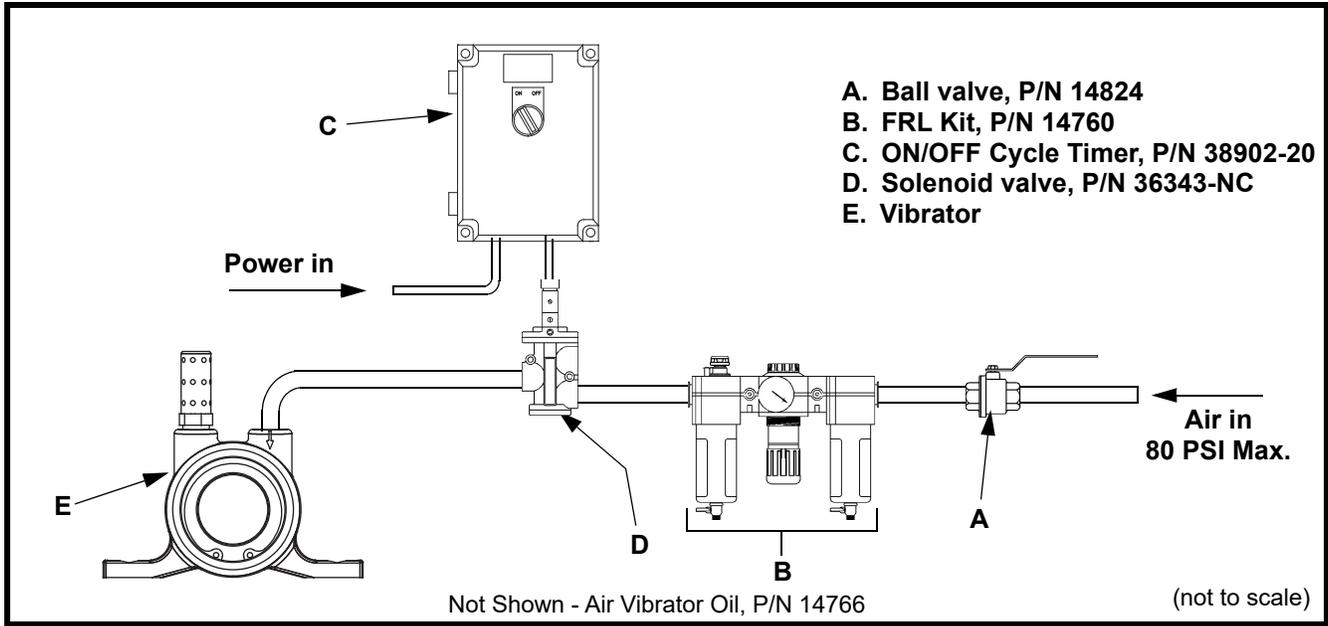

Figure 3. Connecting Air Lines to Vibrator
- a. See Figure 3. Connect air line to ball valve (A) and Filter/Regulator/Lubricator (FRL) Kit (B). Set lubricator to deliver 1–2 drops of oil per minute.